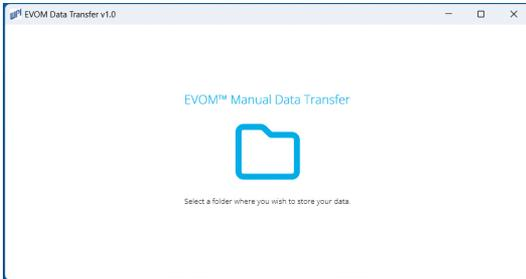

Fig. 36—The application opens and asks you to select a data storage folder.
2. The EVOM™ Companion Application opens (Fig. 36).